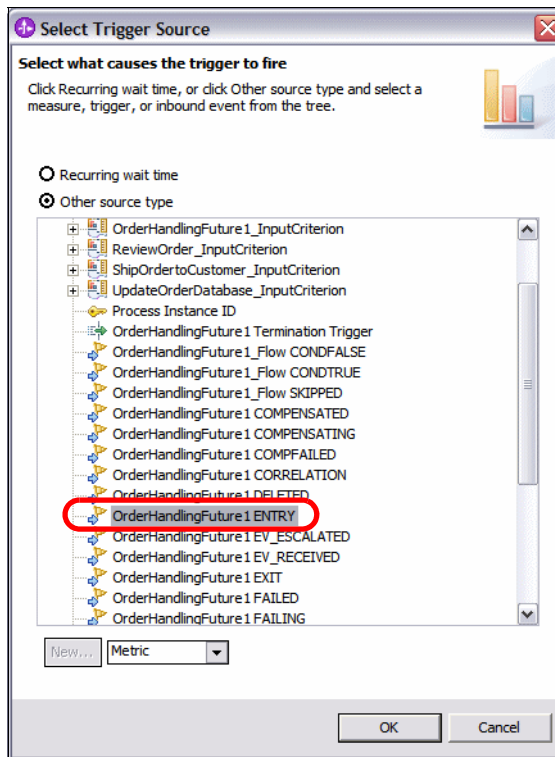

Figure 12-23 Select the event of a trigger
- ▶ Select *Other source type* and select *OrderHandlingFuture1Entry* (Figure 12-23).